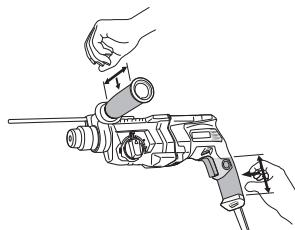

Fig. 17
9. Make sure to securely hold the tool as shown in Fig. 17 during operation.